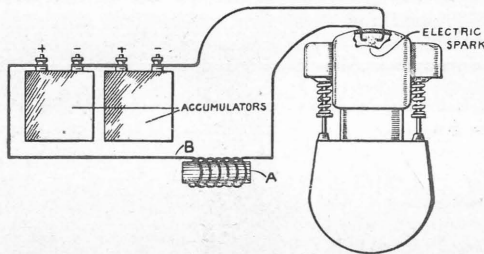
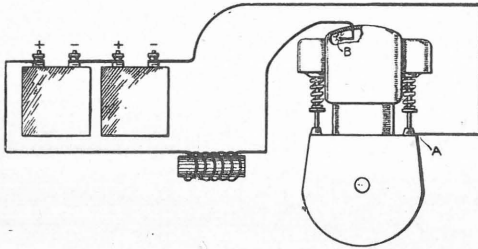

Fig. 4.—Ignition by 8-volt battery and solenoid.
Fig. 5.—Eight-volt battery and solenoid using "earth" return.
mon forms of ignition. We refer to what is called a *solenoid*. The ordinary accumulator, it must be explained, if used exactly as shown in Fig. 1, would not give a hot enough spark to produce an explosion unless a very much heavier current were taken from it than is good for it. What is done, therefore, is to connect two four-volt batteries together, making up an eight-volt battery, which is used with a "solenoid," as shown in Fig. 4.
"Solenoid" sounds a very imposing word, but it is really a very simple thing. It consists of a bundle of soft iron wires (A, Fig. 4), with a coil of insulated copper wire (B) wound round it as shown. This coil is connected between the accumulator and the motor as shown. There is no need to explain why it acts as it does; to do so would mean writing a book as big as this Handbook now is, but its effect is to give a very much stronger current at the moment the circuit is broken, and, instead of a feeble spark in the cylinder, we get an intensely hot flame that is perfectly certain to fire the charge. The great advantage of the "solenoid" is that it gives this extra current without taking any extra electricity out of the accumulator.
away with one wire altogether. The whole engine is made of metal, so we can arrange to use it to conduct electricity, as shown in Fig. 5. Here we have the same arrangement as in Fig. 4, but the — wire from the battery, instead of being taken inside the cylinder, is fastened to any convenient nut or bolt on the engine, as at the point A. The other wire, insulated of course, is carried through the cylinder as before, but we can now break our contact against the cylinder wall at the point B. Now the engine itself is bolted to the boat, and the boat is in the water, which, as we have seen, is a "bad" or partial conductor of electricity, so that the — terminal of the accumulator is connected to the sea or the "earth." The arrangement is therefore called an *earth connection*.
The contact breaker.—All we have to do now is to arrange a practical way of making and breaking contact between the remaining wire and the cylinder. There are naturally several ways in which this can be done, but we will only describe one very simple form of "make-and-break" or "trip" gear as it is called. It is necessary first of all to carry a rod carefully insulated through the cylinder, and, secondly, to arrange a little rocker, also carried through the cylinder, to make and break contact with the insulated rod. The rocker will have one arm inside the cylinder for this purpose, but the other arm must be outside. The outer end of the insulated rod is connected to the solenoid, as in Fig. 5, and since the rocker is touching the cylinder itself, it will be seen that when the inside arm of the rocker touches the insulated rod the circuit is "made." When the arm is pulled away from it the circuit is broken and we get a spark.